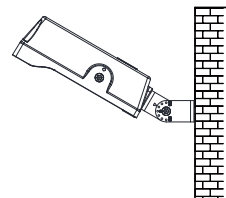

figure 2.6
Step 3: Loosen screws; Adjust fixture angles as per actual demands and tighten screws later. (figure 2.6) Tips: Angles of the fixture is adjustable.